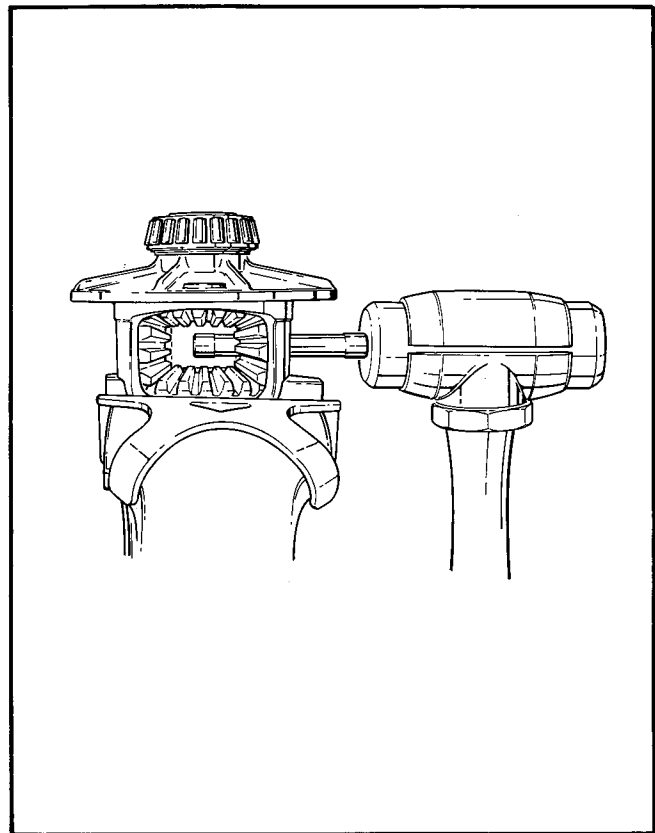

Figure 29 – Installing Pinion Mate Shaft
- a. Install thrust washers (18) behind their respective side gear (17) and install in differential case.
- b. Install thrust washers (16) and pinion mate gears (15).
- c. Rotate pinion mate gears (15) until pinion mate shaft (14) can be inserted. Use soft hammer if necessary to drive mate shaft into case, Figure 29.